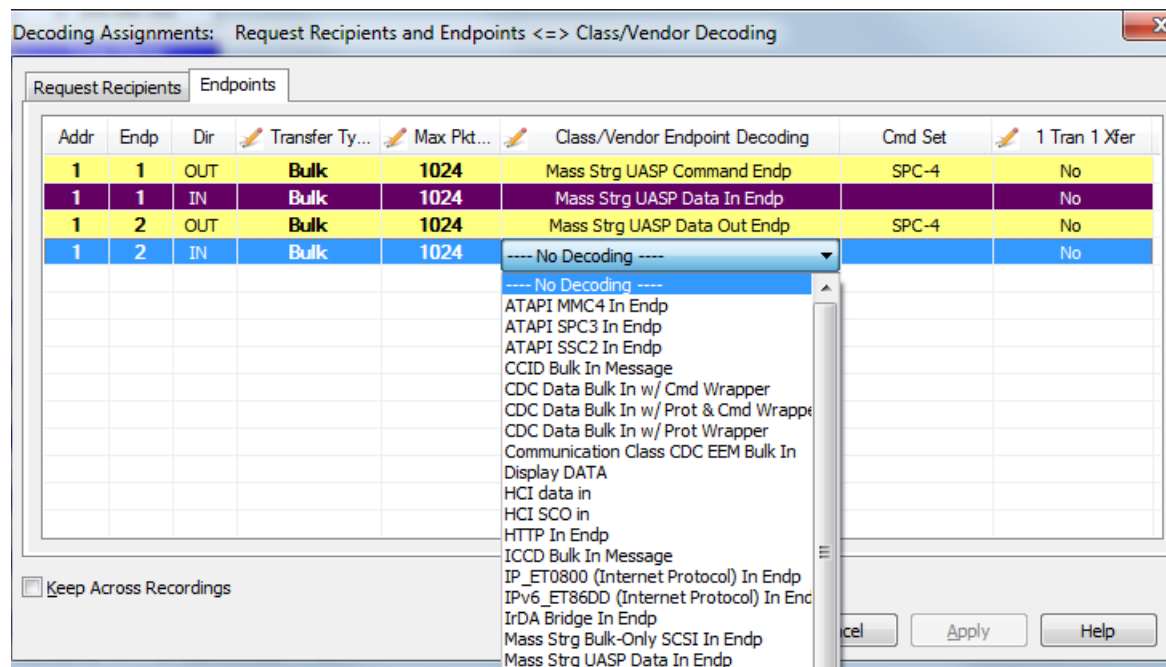

Figure 8.5: Class/Vendor Endpoint Decoding Drop-down Menu.
8. Display the **Class/Vendor Endpoint Decoding** drop-down menu (see Figure 8.5 on page 255):